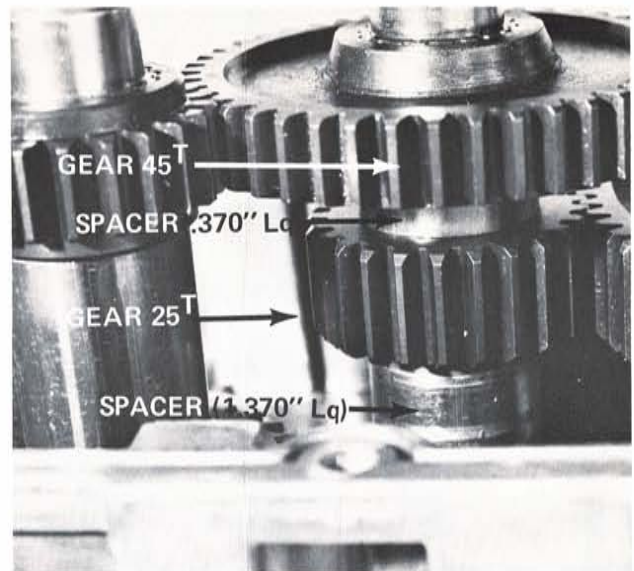

Fig 22
8. Place spacer (1.370" lg), 25 tooth gear, spacer (.370" lg), and 45 tooth gear on front transmission shaft. (Fig 22)